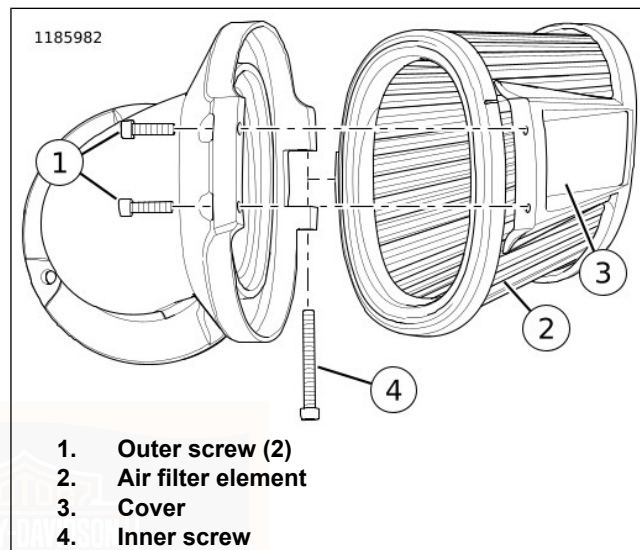

Figure 82. Air Filter: Cone
1. See Figure 82. Remove outer screws (1).
2. Remove inner screw (4).
3. Remove air cleaner cover (3) and air filter element (2).
1. See Figure 82. Apply thread locker to screws (1, 4).